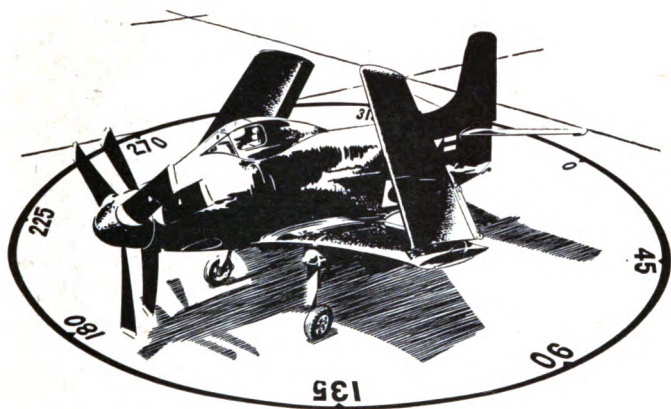

Figure 58.—Compass rose, with airplane on south heading.
**GROUND SWINGS.** Ground swinging is usually done with the airplane at rest on a **COMPASS ROSE**—as shown in figure 58. A compass rose is much like an oversized card from a navigation compass, and is usually laid out or painted on the ground at most air bases. The directions shown by it are **MAGNETIC** directions—that is, the north arrow points toward the earth's north **MAGNETIC** pole, but many compass roses also have a line showing true north.